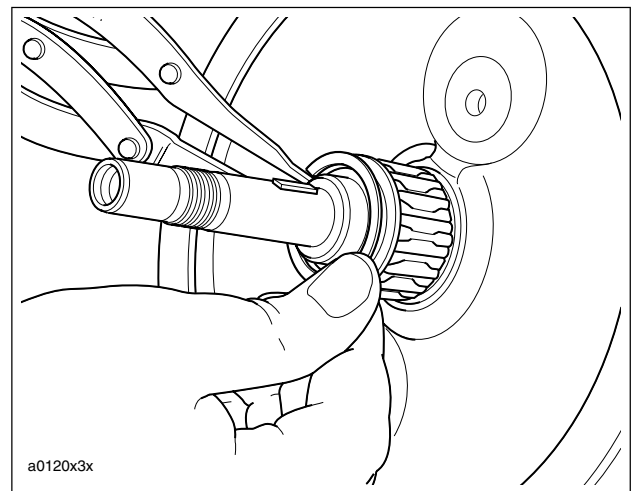

Figure 3-151. Pinion Shaft Bearing
6. See Figure 3-151. Install pinion shaft bearing.